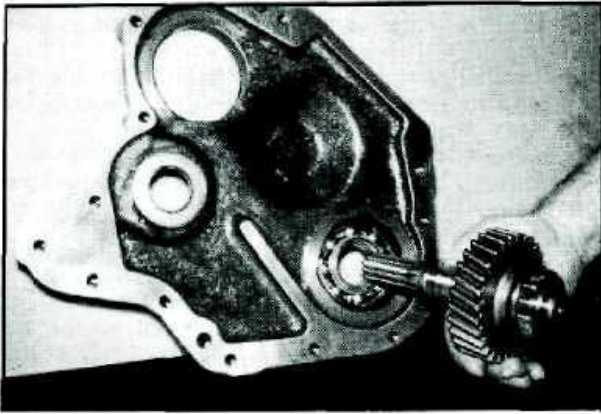

Fig. G.8 — Removing P.T.O. Driven Shaft.
4. The P.T.O. intermediate gear may now be removed by unpinning and removing the slotted nut from the shaft and sliding the gear, bearings and washers from the shaft. If the main mechanism is to be dismantled, the gear with bearings and shaft may be removed as described in item 2 of "To remove the upper mainshaft".
6. The driven gear may be removed from the rear cover by removing the retainer plate and seal (6 bolts—note the location of the clutch spring lug on early tractors) removing the circlip thus exposed and pressing the shaft and gear through towards the inside of the cover. (See Fig G.8).